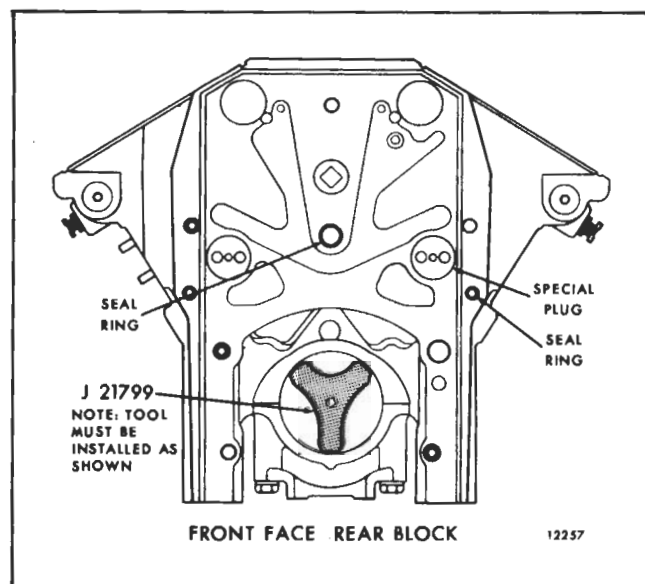

Fig. 9 - Position of Cylinder Block Alignment Tool
9. Place the triangular cylinder block alignment tool J 21799 in the main bearing bore with the contact points of the tool located as shown in Fig. 9 and the lower end of the tool resting on the wood block.